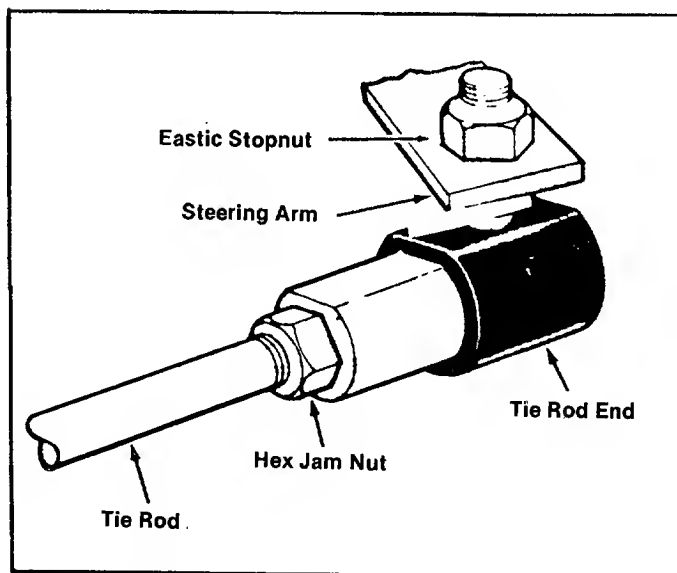

FIGURE 21. TIE ROD END
- Step 1. Remove the elastic locknut and drop the tie rod end from the wheel bracket. See figure 21.